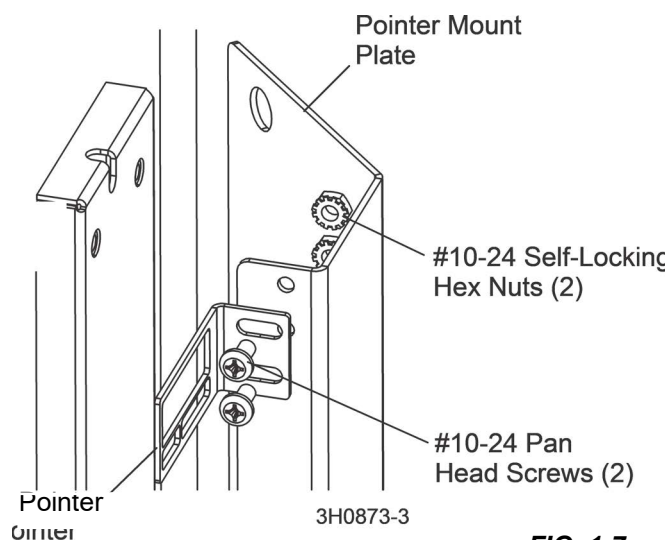

FIG. 1-7
20. Use existing hardware to secure the pointer mount plate to the sawmill. See Figure 1-7